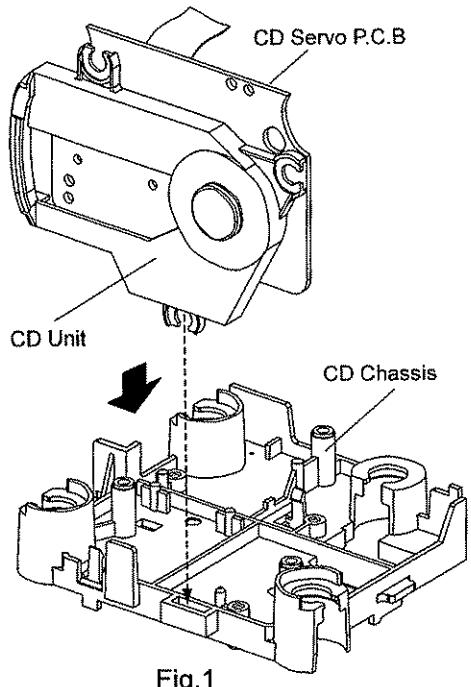
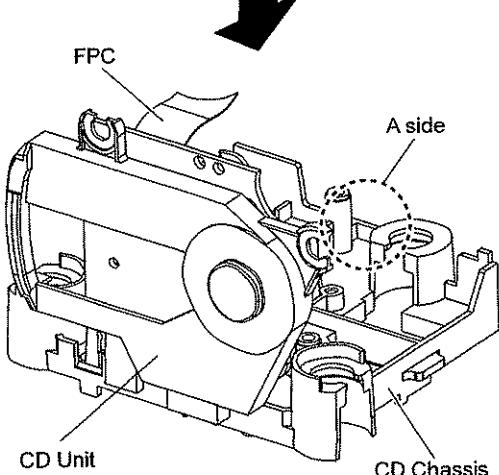

Fig.1
Fig.2
1. Follow steps described in item 10.1 ~ 10.2.
Step 1: Insert the CD unit as the arrow indicated. (Fig.1 & Fig.2)